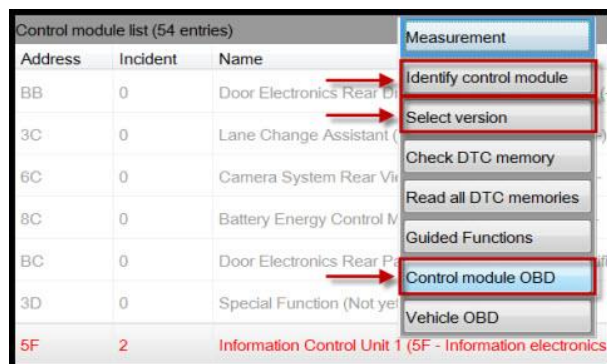

Figure 3. ODIS Options for 5F.
2. Right-click 5F*. Choose “Identify Control Module”. Next, right-click 5F again and choose “Select version”. Then, right-click 5F again and choose “Control module OBD”, then select “Code” (Figure 3).